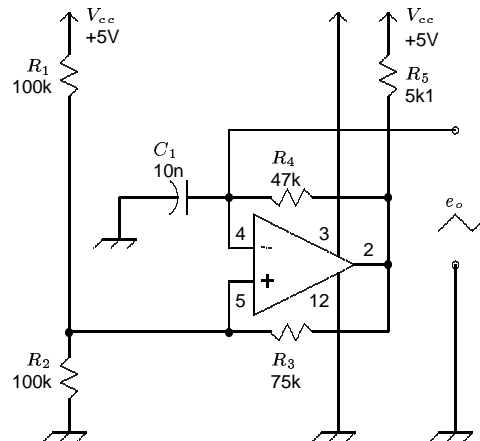
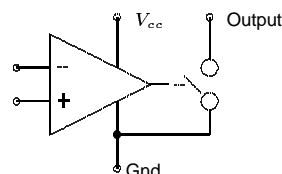

Figure 26: Triangle Wave Oscillator
Figure 27: Comparator Equivalent Circuit
The circuit for a triangle-wave generator is shown in figure 26.
- There is one important difference between the op-amp and a comparator. The output of the comparator is an *open-collector* circuit, which may be modelled as the switch shown in figure 27. Consequently, there is usually a resistor connected between the output of the comparator and V_{cc} . When the output switch is open, the resistor pulls up the output to V_{cc} volts. When the switch is closed, the output is zero volts. This way, the comparator can be used to switch an output voltage that is different from the voltage supplying the chip. In figure 26 R5 is the pullup resistor. This resistor is generally small compared to the other resistors in the circuit. As a consequence, we can usually regard the comparator as producing either V_{cc} or zero volts.
1. Connect up the oscillator circuit (by itself) as shown in figures 26 and 30.